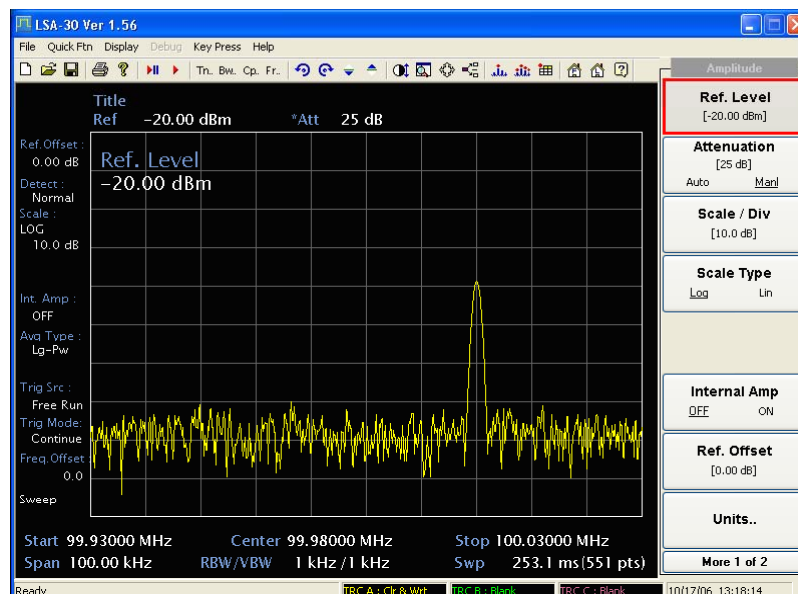

Fig. B-20 Setting the input attenuator
- 4 Set the reference level to -10 dBm by pressing [AMPL], [Ref Level] -10 dBm. See Fig. B-20. Note that if the signal is much higher than shown, adjust the input attenuator. In this example the input attenuation was set to 30 dB by pressing [Attenuation. Manl] 30 dB.